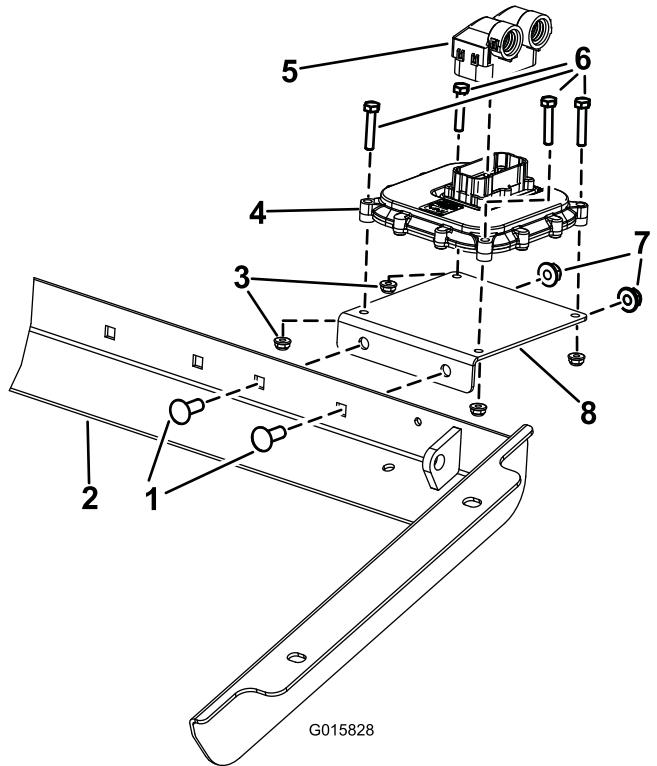

Figure 2
2. Secure the controller to the controller bracket using 4 bolts and 4 nuts as shown in Figure 2.
3. Insert and secure the wiring harness connector into the controller as shown in Figure 2.
1. Mount the controller bracket to the frame using 2 carriage bolts and 2 flange nuts (Figure 2).